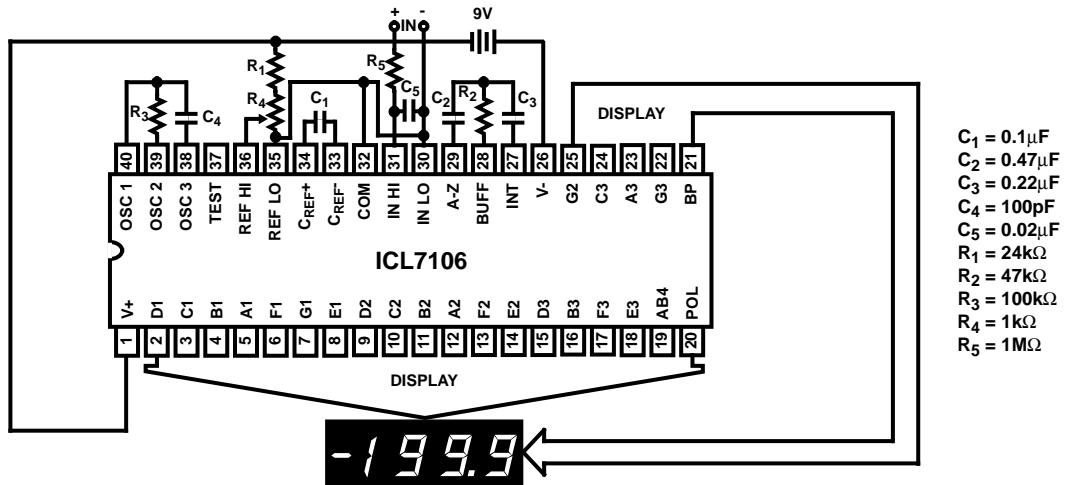
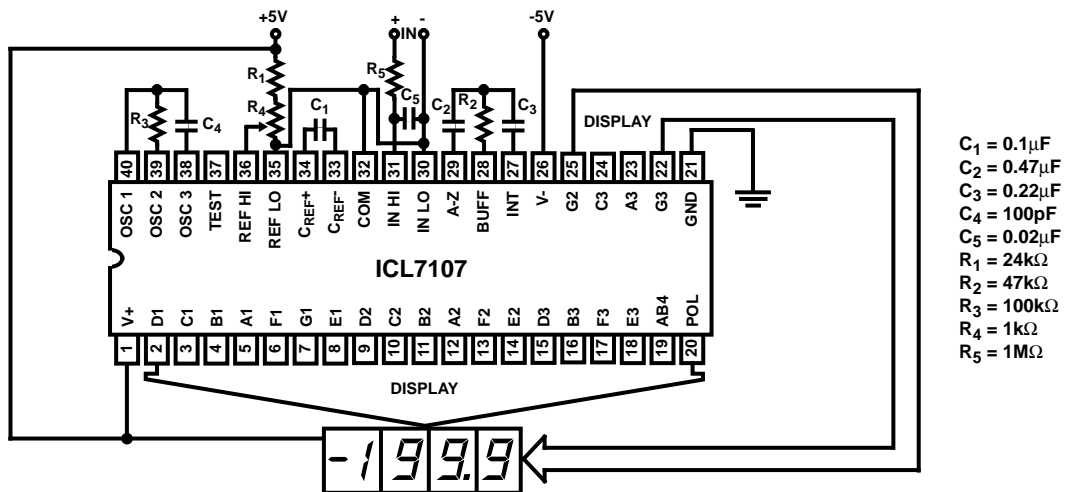

FIGURE 1. ICL7106 TEST CIRCUIT AND TYPICAL APPLICATION WITH LCD DISPLAY COMPONENTS SELECTED FOR 200mV FULL-SCALE
FIGURE 2. ICL7107 TEST CIRCUIT AND TYPICAL APPLICATION WITH LED DISPLAY COMPONENTS SELECTED FOR 200mV FULL-SCALE
3. Unless otherwise noted, specifications apply to both the ICL7106 and ICL7107 at $T_A = +25^\circ\text{C}$, $f_{\text{CLOCK}} = 48\text{kHz}$. ICL7106 is tested in the circuit of Figure 1. ICL7107 is tested in the circuit of Figure 2.